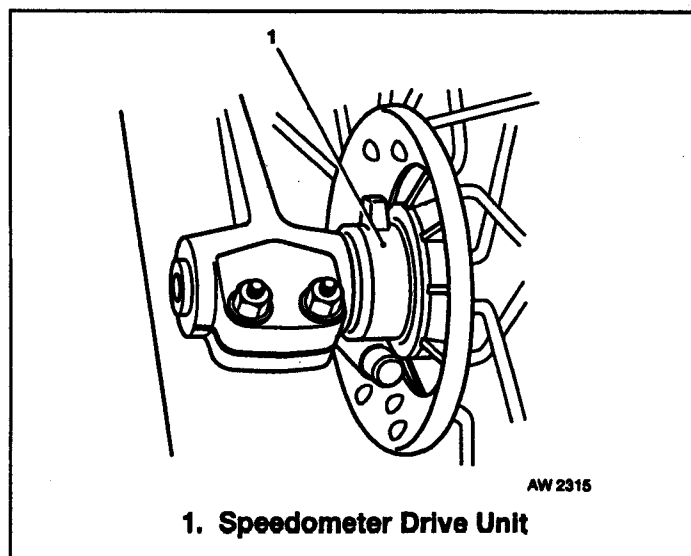

Fig 11.5 Speedometer Drive Unit
(1) Axle nut 68 (50)
(2) Slider pinch bolt nuts 7 (5 ft/lbs)
- c. Fig 11.5 refers. Position speedometer cable drive unit on wheel hub. Be sure both parts are completely engaged.